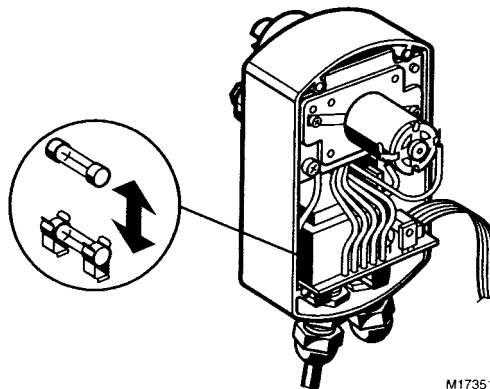

Fig. 10. Replacing the MV876 fuse.
3. Remove and discard the old fuse (see Fig. 10).
4. Insert a new 800 mA fuse (see Fig. 10).